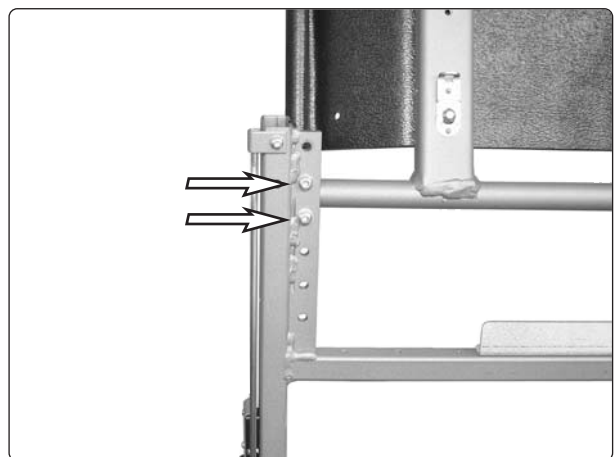

Fig. 7. The backrest's bearing brackets are mounted using two screws each from underneath.
6. Insert and tighten the screws for the bearing brackets from underneath, see Fig. 7.